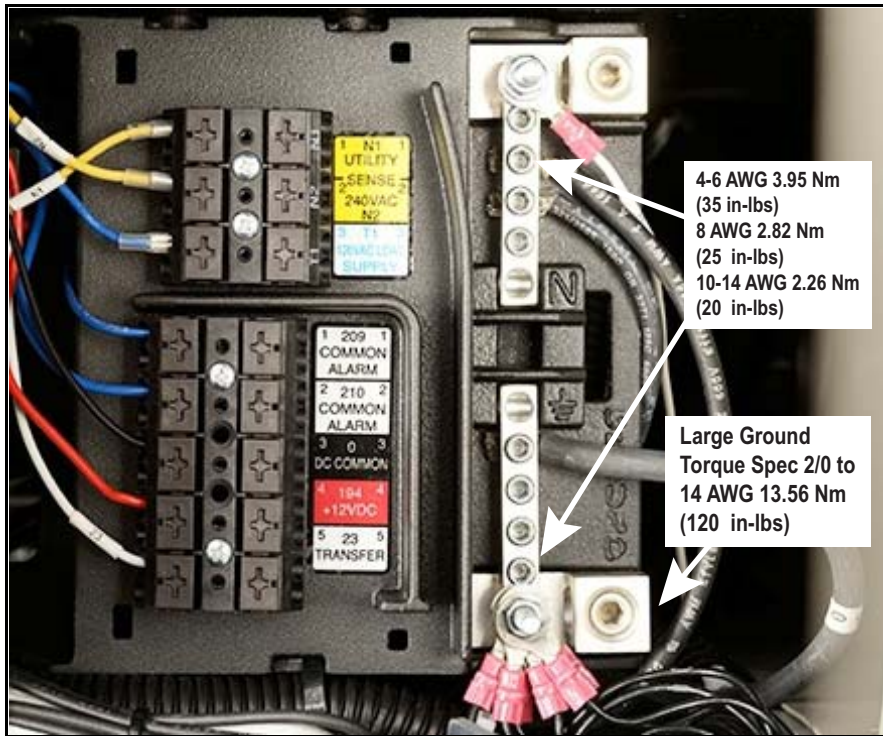

Figure 6-1. Control Wiring (Behind Control Board)
5. Connect the Neutral wire to the Neutral Lug and torque to specification. See Figure 6-1.
6. Connect the Ground wire to the Ground Lug and torque to specification. See Figure 6-1.
NOTE: Neutral Bonding - For installations that require the neutral to be bonded to the ground, this is to be done on the customer connections terminals inside the generator. Connect a suitably sized wire from the neutral bar to the ground bar. This is normally required when the generator is the source in a separately derived system. It is not required when the generator is a backup source in a utility supplied electrical system with a 2-pole transfer switch. See Figure 6-1.